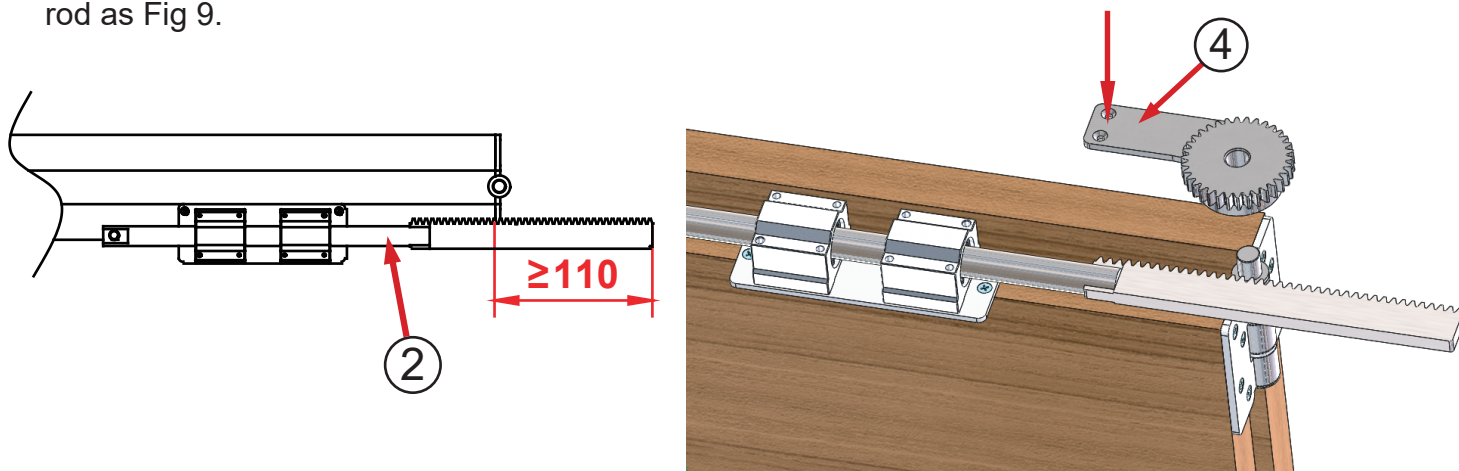

Fig 9
8. Fold the 2 leaves door, insert the ② gear rack rod into the fixing base, and ensure that the gear rack extends beyond the edge of the door by more than 110mm, and then install ④ gear connection rod as Fig 9.